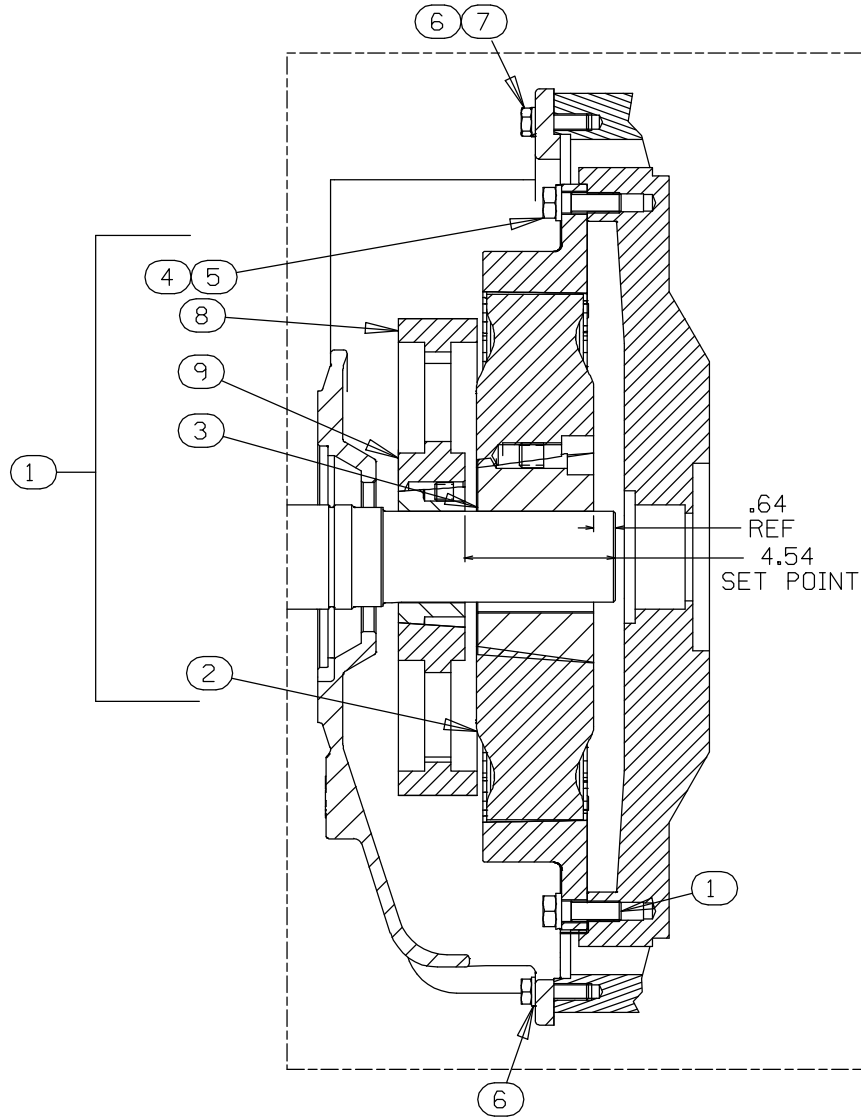

Figure 10. 44162-184 Drive Assembly
Support the pedestal using a hoist and sling and remove the hardware (6 and 7, Figure 10) securing the drive flange (18) to the engine bellhousing. Separate the assemblies by pulling the pedestal straight away from the engine.
(Figure 10)
Loosen the set screw in the bushing (9, Figure 10) and remove the sprocket (8, Figure 10) from the impeller shaft (26).